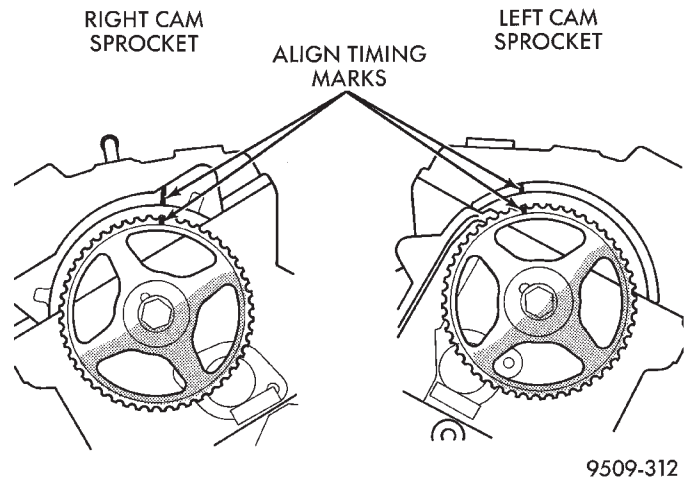
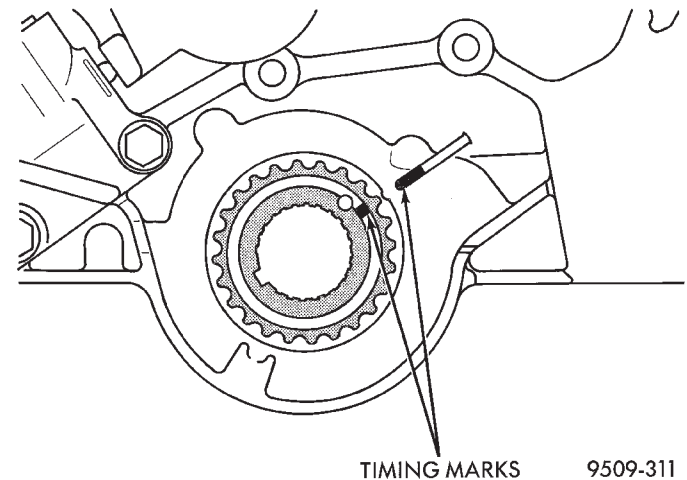

Fig. 65 Camshaft Sprocket Timing
Fig. 66 Adjusting Crankshaft Sprocket for Timing Belt
(2) Set camshaft sprockets to the aligning marks on the sprockets with the marks on the rear timing belt cover (Fig. 65).
(3) Install timing belt on right camshaft sprocket. Install a binder clip on the belt and sprocket so the belt will not slip out of position. Keeping the belt taught, install belt under the water pump pulley and then around the left camshaft sprocket. Install an additional binder clip on the left sprocket and belt.
(4) Rotate the crankshaft to TDC (Fig. 66). Continue routing the belt around the idler pulley, crankshaft sprocket, and tensioner pulley.